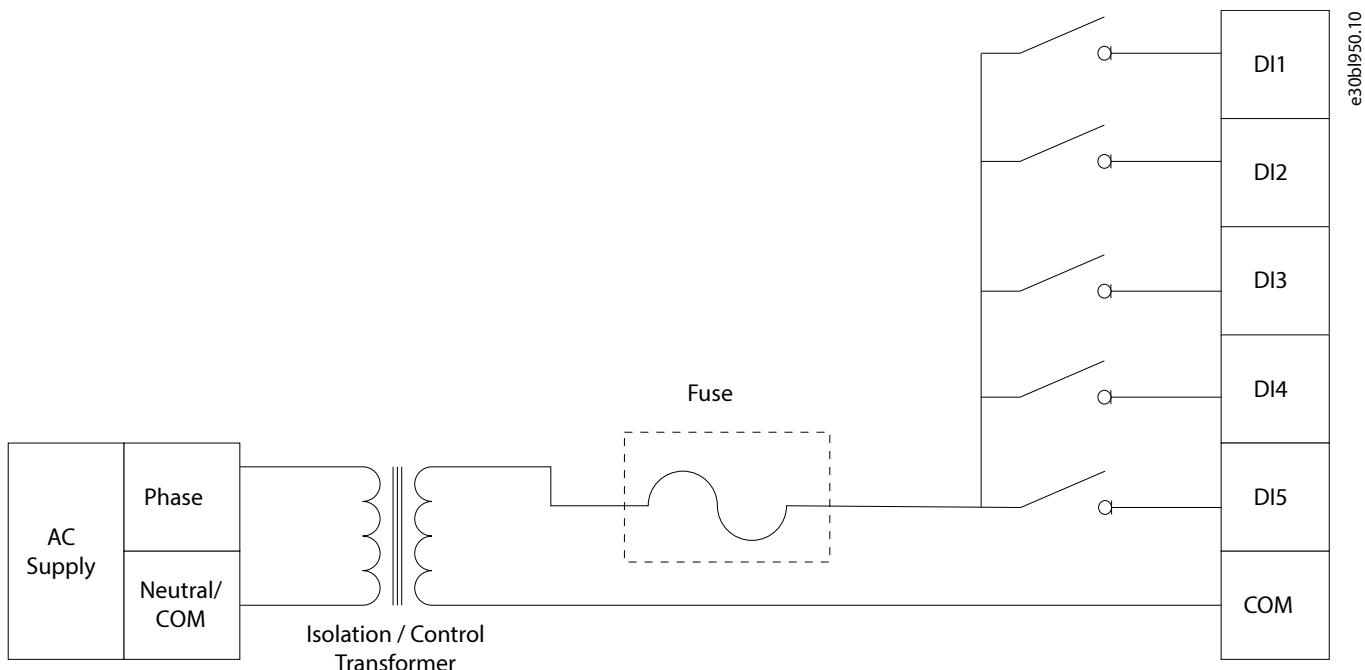

Figure 59: Wiring Configuration for Operation above 2000 m (6560 ft) Altitude using 5 Inputs and a Control Transformer
- All 5 inputs can be used, if the supply is from auxiliary supply and not from mains. In this case, a control transformer must be used between the power supply and the digital inputs. See Figure 59.